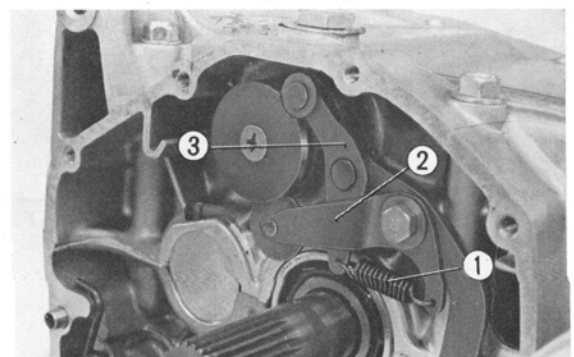

Fig. 132 ① Shift drum stopper spring
7. Attach the shift drum stopper spring to the drum stopper and to the drum neutral stopper as shown in Fig. 132, then tighten the drum stop bolt and neutral stop bolt. Also tighten the bearing set plate together.